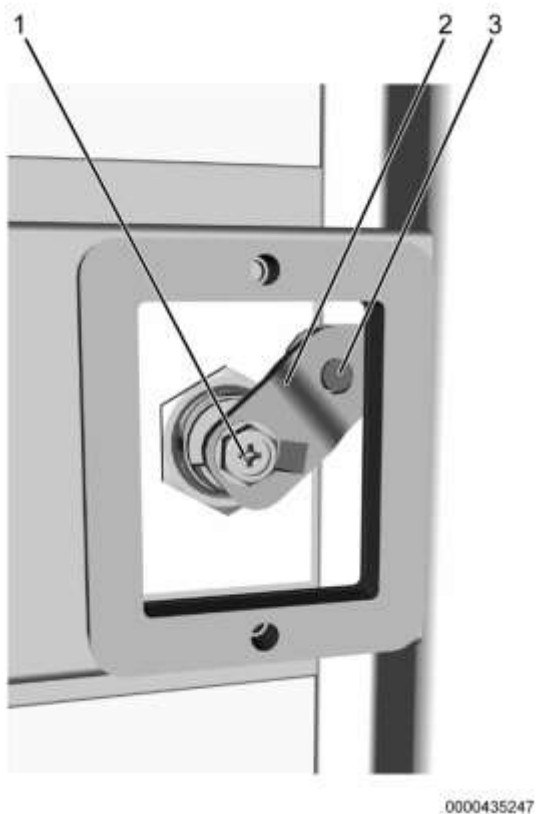

Figure 2. Latch Screw and Cam Bracket
7. Remove latch screw (Figure 2, Item 1).
8. Remove cam bracket (Figure 2, Item 2).